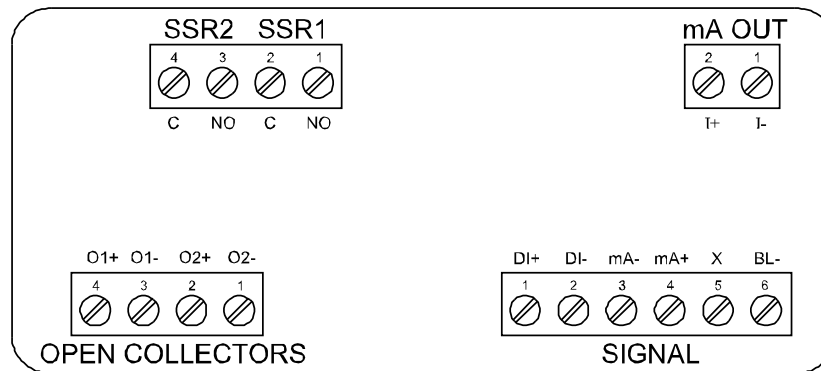

Figure 4. Connector Labeling for Fully Loaded Meter
Signal connections are made to a six-terminal connector labeled SIGNAL on Figure 4. The following figures show a 4-20 mA current loop connected to the meter. The first figure shows the connection without the backlight and the second shows the connection with the backlight (the backlight may also be disabled/enabled in the `5757EM` menu). The meter is powered by the 4-20 mA current loop. There are no switches or jumpers to set up for the input. Setup and programming is performed through the front panel buttons or PC-based software.
Relay connections are made to a four-terminal connector labeled SSR1 and SSR2 in Figure 4. Each relay's C terminal is common only to the normally open (NO) contact of the corresponding relay.